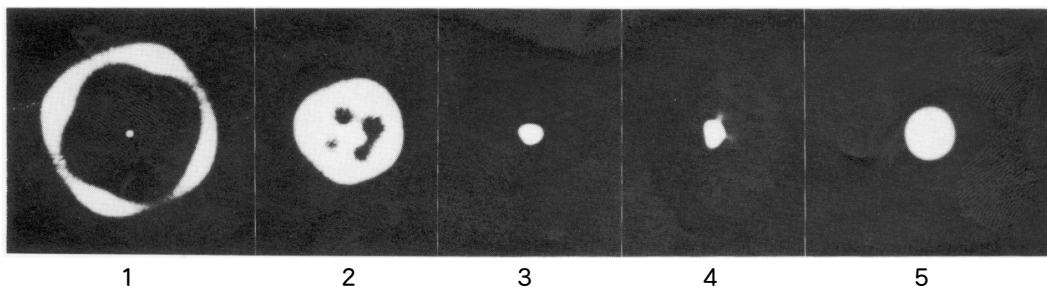
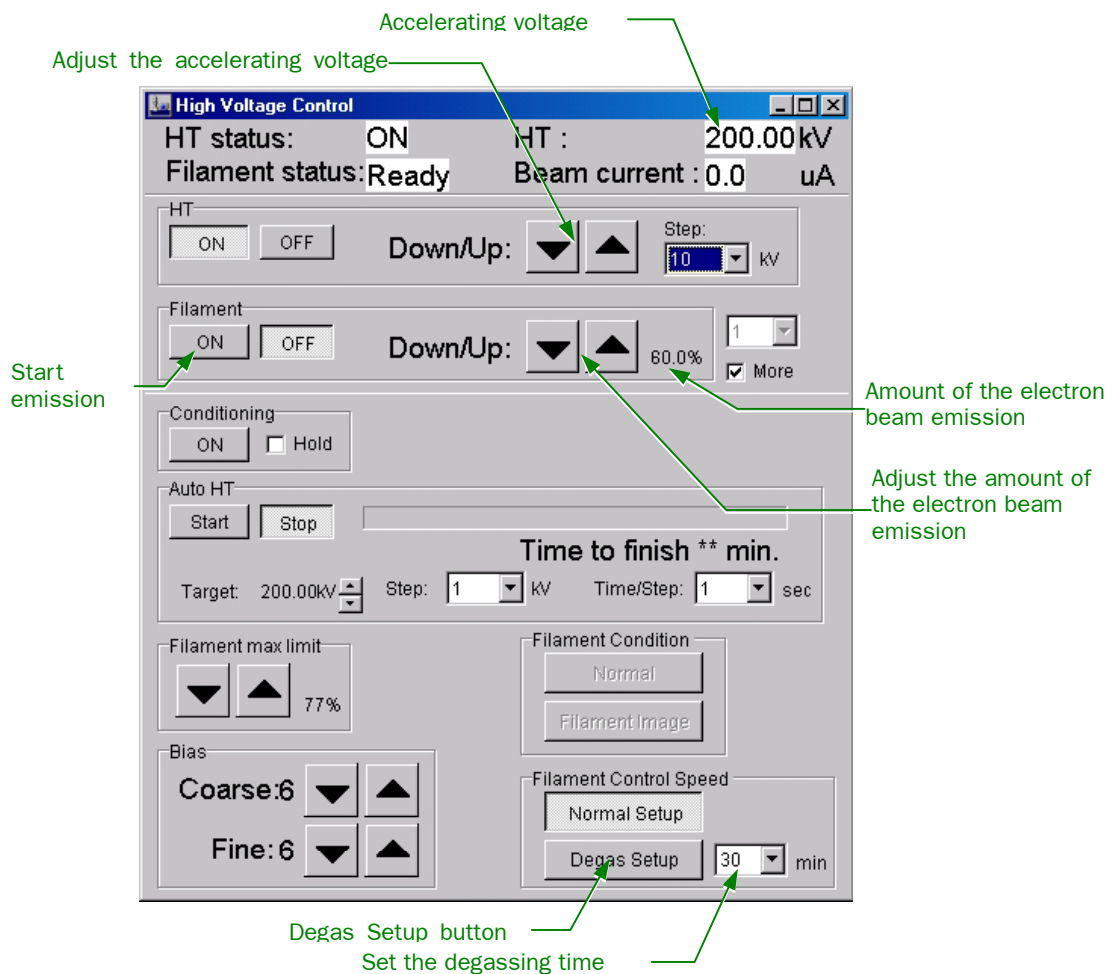

Fig. 6.12 Change of the beam image depending on the Coarse value in Bias
Fig. 6.13 Degassing the filament (High Voltage Control window)
1. Set the accelerating voltage to 0 kV using the ▼ button in the HT box in the **High Voltage Control** window (Fig. 6.13).
2. Set the amount of the electron beam to 60 to 70% using the ▼ and ▲ buttons in the Filament box in the **High Voltage Control** window (Fig. 6.13).
3. Click on the **Degas Setup** button in the Filament Control Speed box in the **High Voltage Control** window to turn it on (Fig. 6.13).
4. Select the degassing time from the list box beside the **Degas Setup** button in the Filament Control Speed box in the **High Voltage Control** window (Fig. 6.13).
5. Click on the **ON** button in the Filament box in the **High Voltage Control** window (Fig. 6.13).
8. Click on the **OFF** button in the Filament box in the **High Voltage Control** window to turn it off (Fig. 6.13).
10. Set the Coarse to 9 in the Bias box in the **High Voltage Control** window (Fig. 6.13).
12. Click on the **Gun** button in the DEF Select box in the **Alignment Panel for Maintenance** to turn it on, and project the electron beam on the fluorescent screen using the SHIFT X and Y knobs (L1-⑧, R1-③).
14. Gradually reduce the Coarse value in the Bias box in the **High Voltage Control** window to bows the cross over so that the beam image changes like Photos 1 to 2 in Fig. 6.12.
15. Reduce the Coarse value in the Bias box in the **High Voltage Control** window so that the beam image looks like Photo 3 in Fig. 6.12.
16. Gradually increase the amount of the electron beam using the ▲ button in the Filament box so that the beam image changes like Photos 3→4→5 or Photos 3→5 in Fig. 6.12, until it reaches the saturation position.
-  Normally, when the values in the **High Voltage Control** window are as follows, you will obtain the beam image like that in Photo 5 in Fig. 6.12.